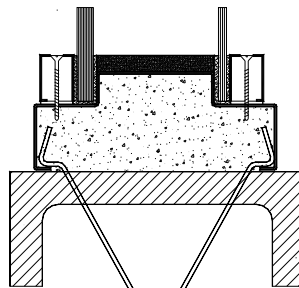

FIGURE 3
D. Installation In New Masonry Partitions (Fig. 3). Instructions for this type wall are not significantly different from those above other than the actual anchorage to the wall and grout fill which takes place as the wall is erected. Special precautions should be taken to prevent the head and jambs from bowing during grout fill. Styrofoam strips should be field applied to the areas where removable stop screws occur to allow removal and reinstallation after grout has dried